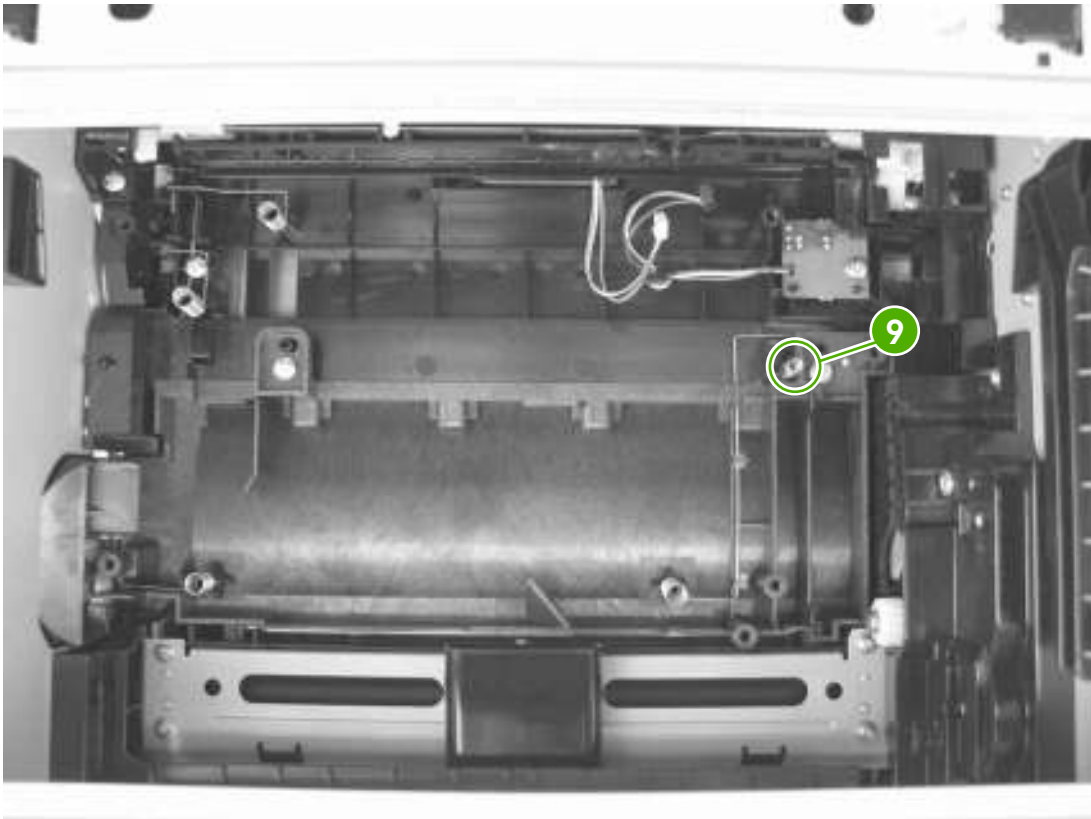

Figure 5-36 Grounding-spring locations
2. Lift one non-captive grounding spring (see callout 11 in Figure 5-36 Grounding-spring locations on page 102 out of the device.